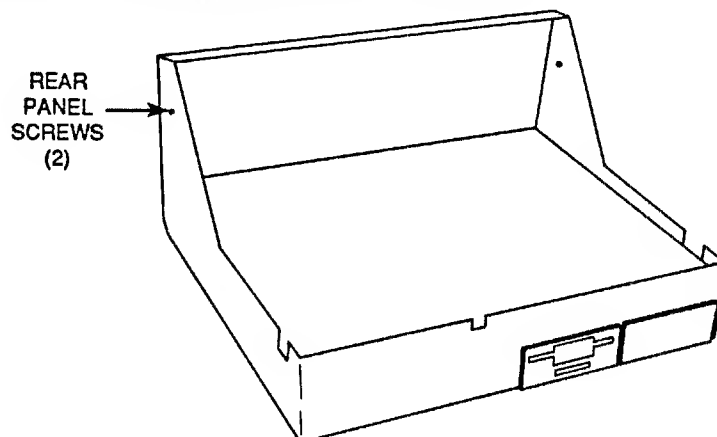

Figure 2-6. Removing the Rear Panel
2. Remove the two rear panel retaining screws shown in figure 2-6.